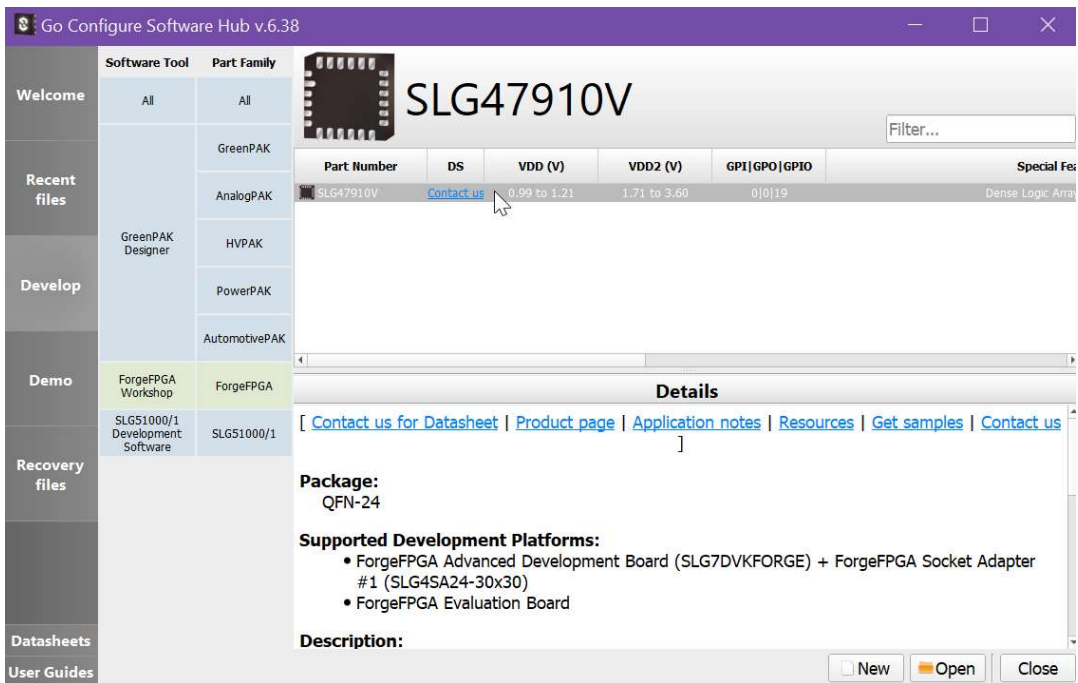

Figure 2. Select SLG47910
- c. Open the Go Configure Software and select the part: SLG47910(Rev BB) to open the Forge Workshop (see Figure 2).